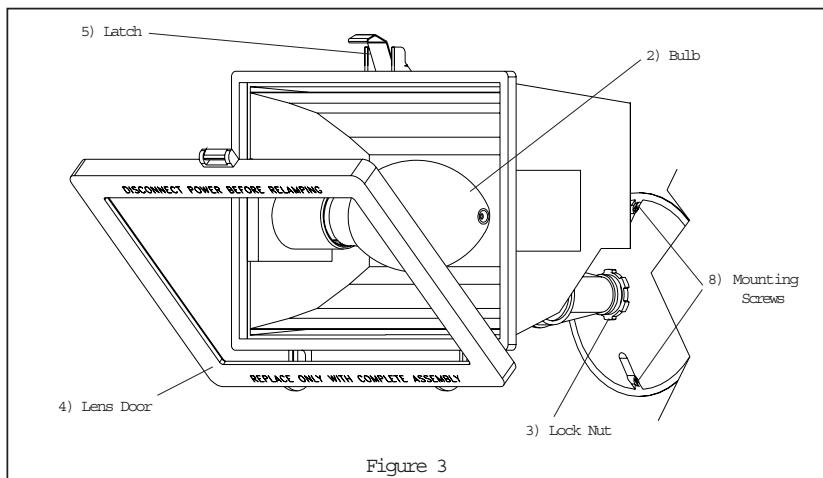

Figure 3
2. Thread Lock Nut to upper end of knuckle. See Fig. 3.
10. For lamp installation, release Latch on top of Fixture Housing to open Lens Door and install 100 Watt Mercury Vapor Type H38 Lamp. See Fig 3.